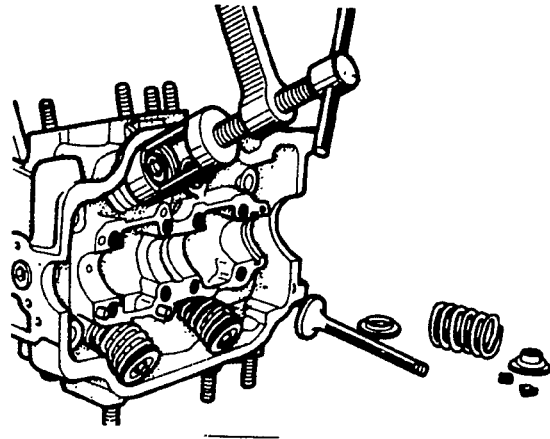

FIGURE 9-25. ASSEMBLING VALVES
2. Install the intake and exhaust valves, valve springs and spring retainers (Figure 9-25). Install valve spring with the white enamel coated side up.